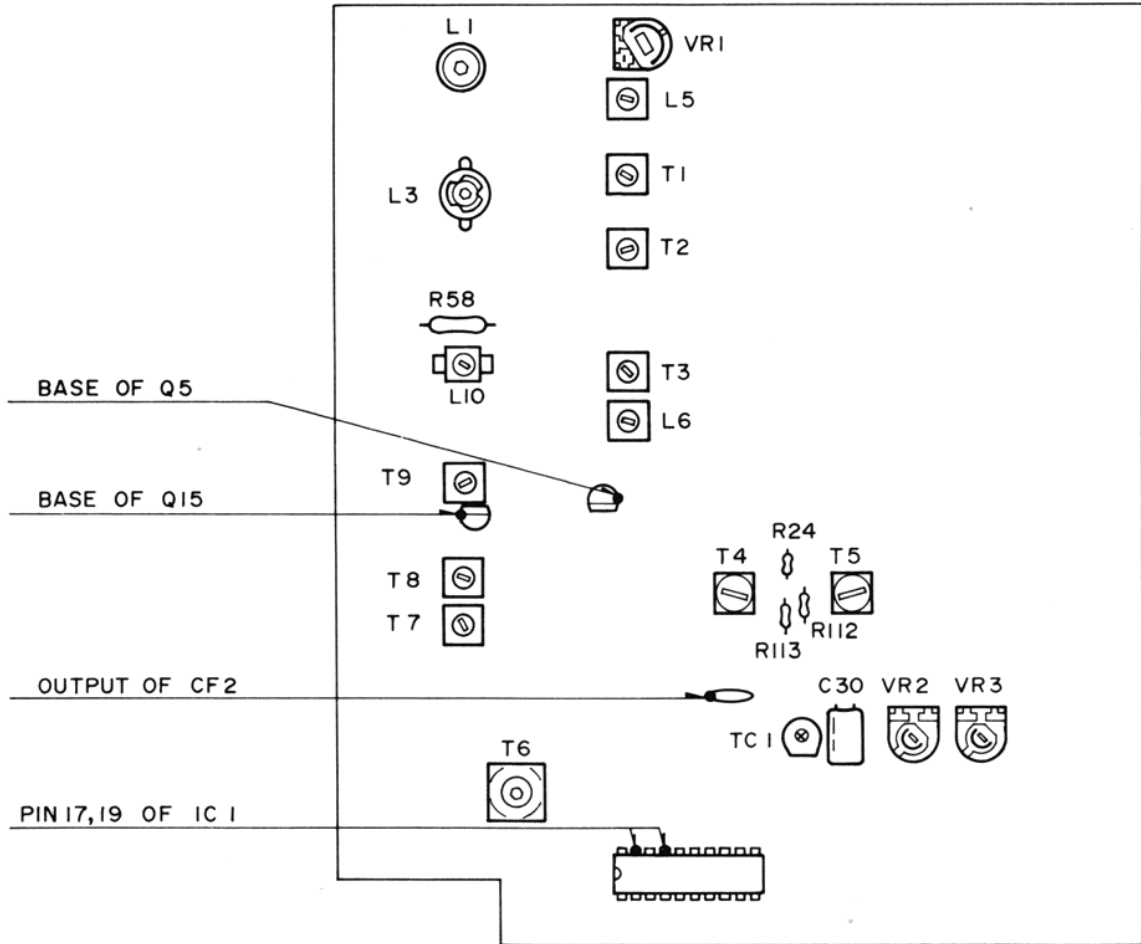

Figure 1
**NOTE:** Figure 1 provides all alignment location information.
NOTE: Figure 1 provides test point and all alignment location information.
NOTE: Figure 1 provides all alignment location information.